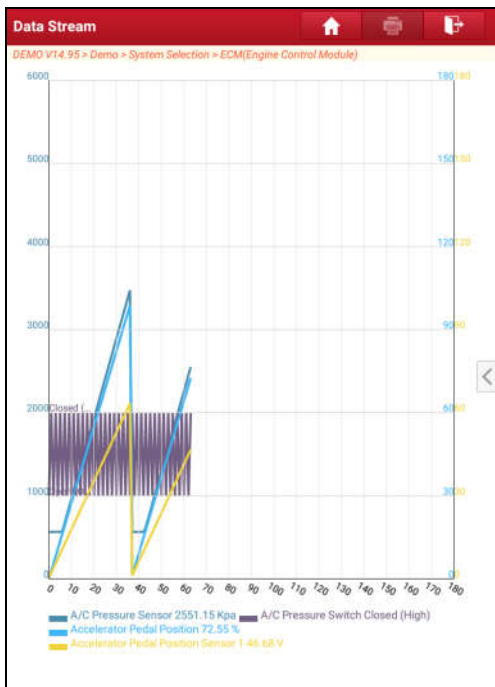

Fig. 5-24
- ✓ Combine – this option is mostly used in graph merge status for data comparison. In this case, different items are marked in different colors. See Fig. 5-24.